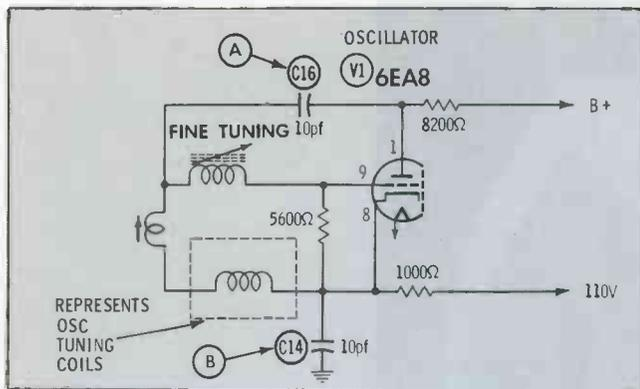

Fig. 7. Defective C16 changes VHF oscillator frequency.
We've found the following trouble in several RCA CTC12, 15, and 16 color chassis. The trouble is usually attributed to the local oscillator in the VHF tuner. Various conditions of improper tracking may accompany the symptoms: picture without sound; sound without picture; sound clear on one channel, station picture on another; or vice versa. In the following case, all stations were received one channel lower than normal. A simplified schematic of the VHF oscillator circuit is shown in Fig. 7.
**Step 4:** Check for poor connections by using insulated tool, pressing on and around components in oscillator stage (Fig. 7).